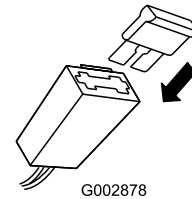

Figure 7
2. Insert the fuse into the fuse holder (Figure 7).